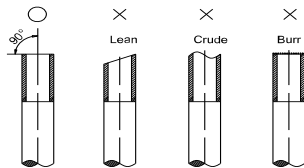

Fig. 30 — Pipe Cutting
- a. Cut the pipe, with a pipe cutter, at 90° degrees (see Fig. 30).